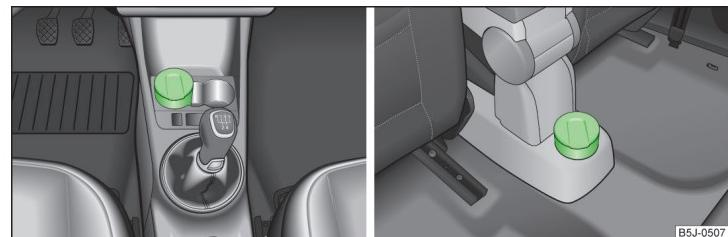

Fig. 79 Centre console: Ashtray at the front/rear
- Pull the ashtray » Fig. 79 out and up.